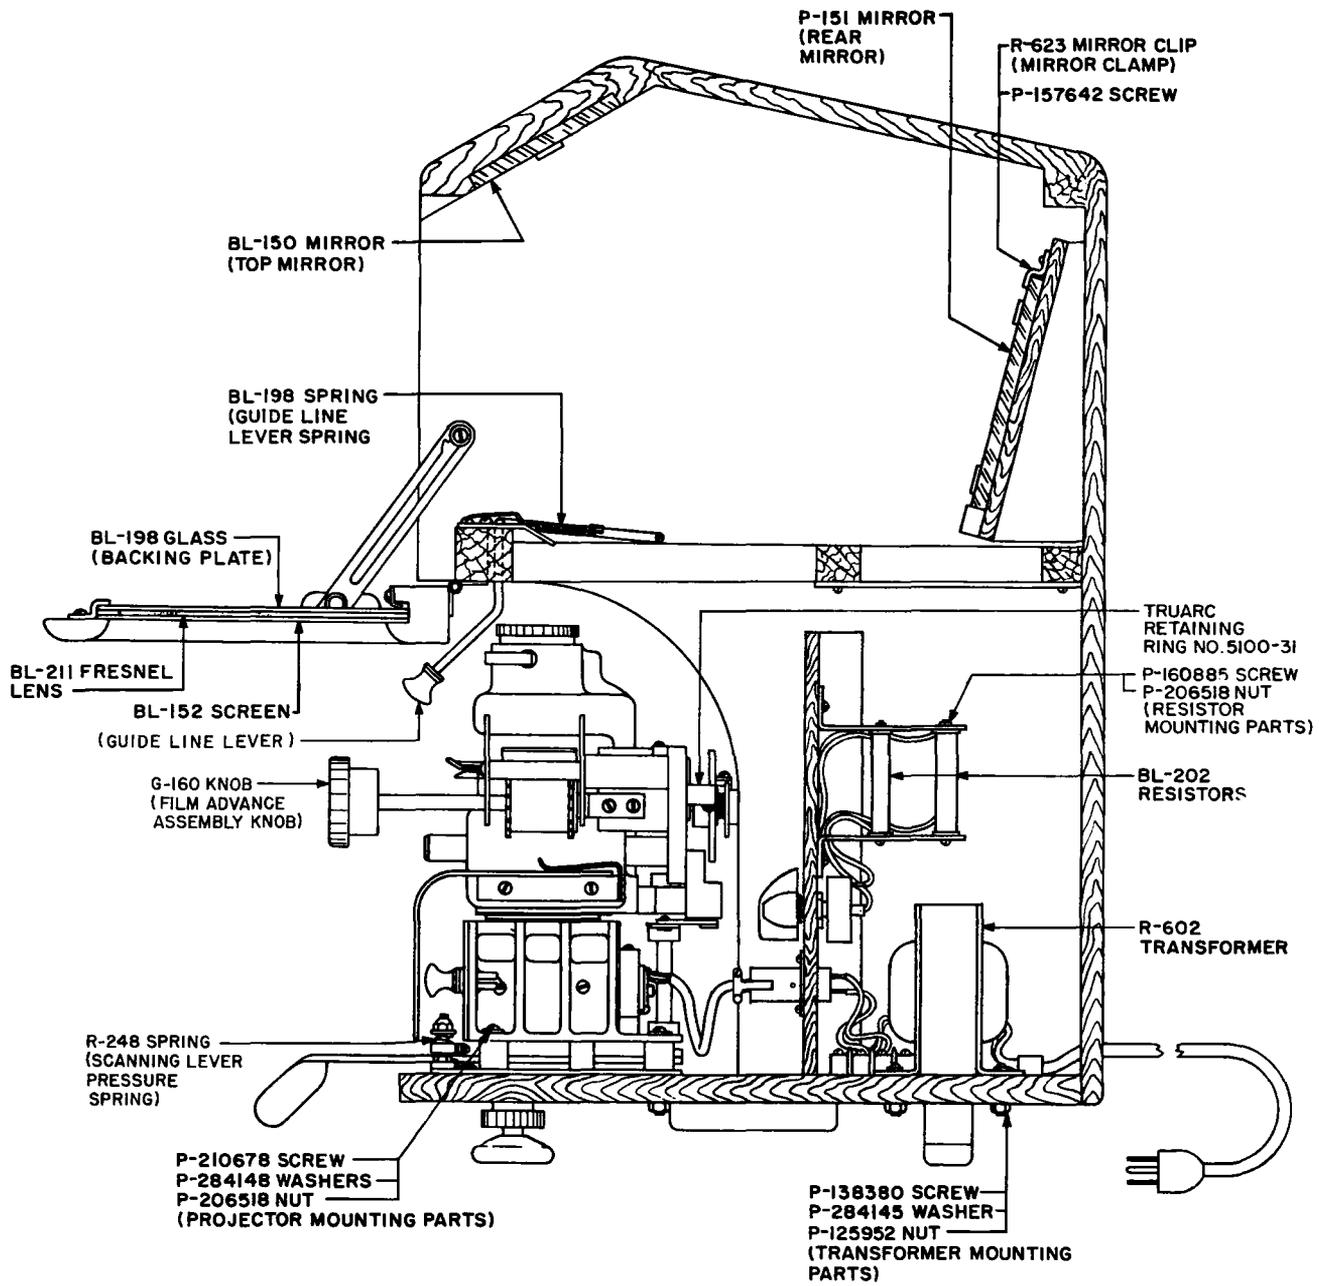

Fig. 1 - KS-16789 L1 Reader - Sectional View
3.06 Screen, Fresnel Lens, and Backing Plate: Fig. 1
3.07 Rear and Top Mirror: Fig. 1
3.08 Guide Line Lever Spring: Fig. 1 — Move the guide line lever to its outermost position as shown in Fig. 1. Disengage the frame latching screws with the 3-inch C screwdriver and lower the frame to the horizontal position. Using the P-long-nose pliers, unhook both ends of the spring. Mount the new spring.
3.09 Transformer, Resistor, and Control Switch: Fig. 1 and 2
(3) **Resistor: Fig. 1** — Tag and unsolder the leads to the resistor at the resistor terminals. Remove the resistor mounting screw and nut using the 3-inch C screwdriver and R-3193 wrench. Remove the resistor. Mount the new resistor and connect the leads to the proper resistor terminals.
(4) Control Switch: Fig. 1